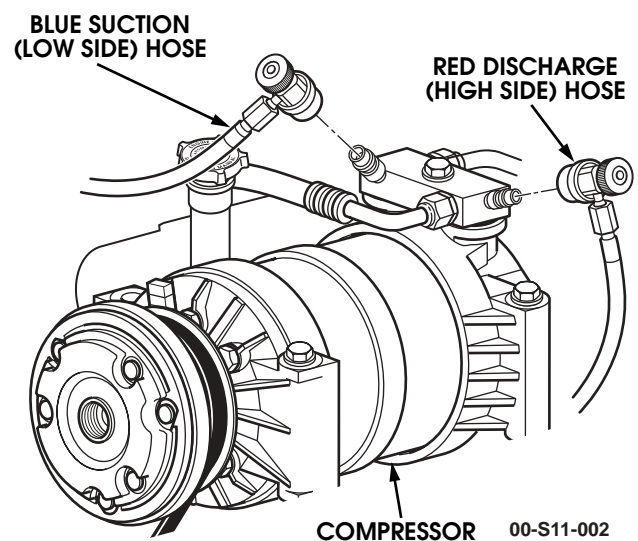

Figure 11-4: Service Hose Connections at Compressor
1. Connect gauge hoses on service cart J-39500-A to service ports on suction and discharge lines (Figure 11-4). Red hose goes to high side (discharge) port and blue hose to low side (suction) port.